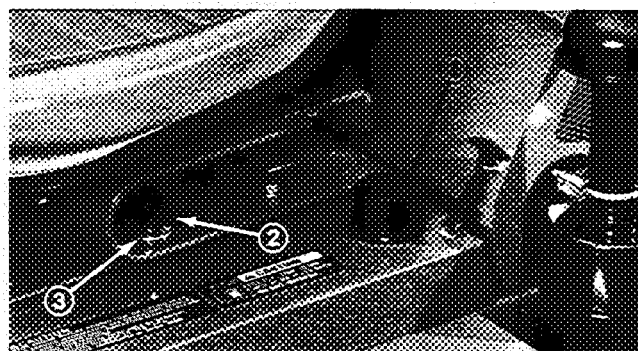

Figure 11
1. Tip seat forward and prop it so it cannot fall accidentally. Using a clean rag, clean area around fuel tank cap (Fig. 11).
**Seat Adjusting Handle — Standard Seat** (Fig. 11) — To adjust seat, loosen adjusting handle and slide seat to desired position. Tighten handle to lock seat in place.